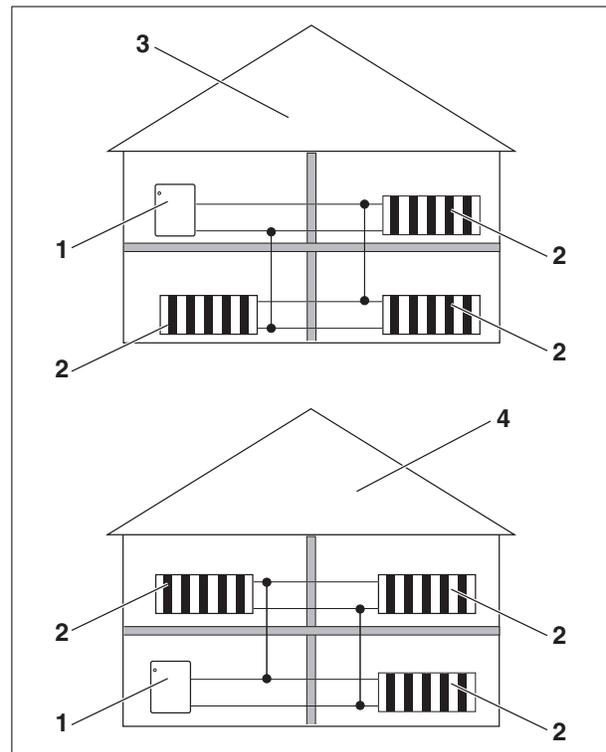

Fig. 8 Low-water cut-off
- ▶ The low-water cut-off must be used when the boiler is installed (→ Fig. 8).